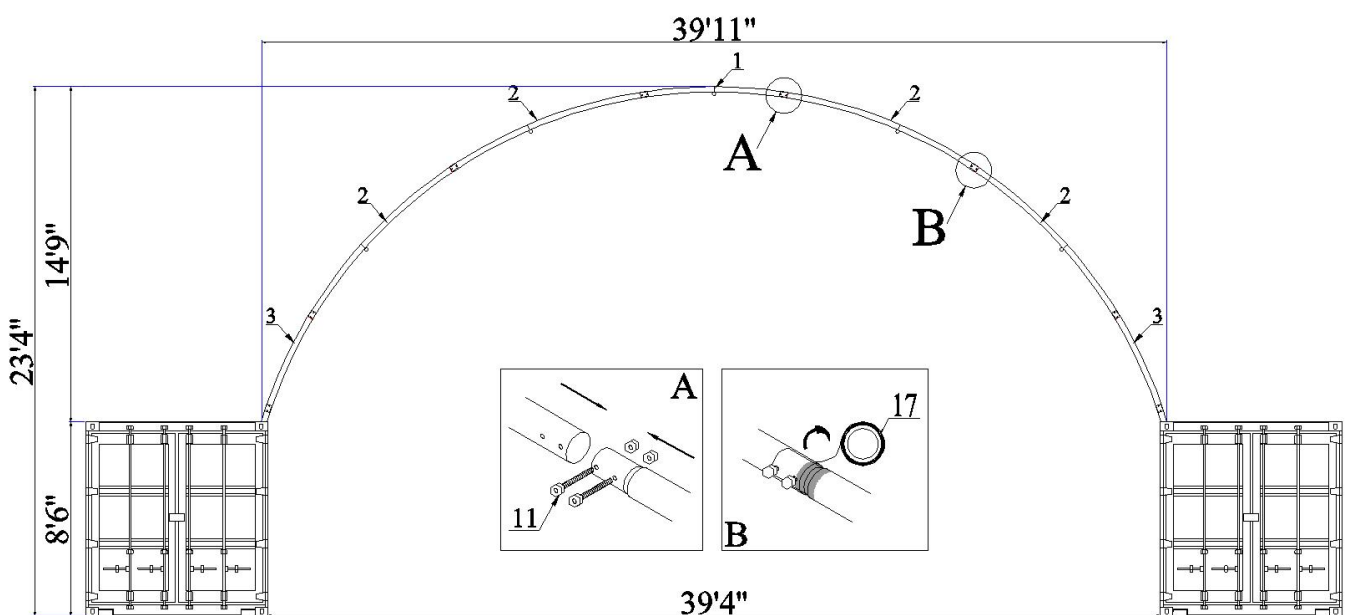

**Figure 1**
1. Weld base plates (No.6 & No.7) to the top of container. Please refer to the diagram (Figure 1) to mark the position of base plates.